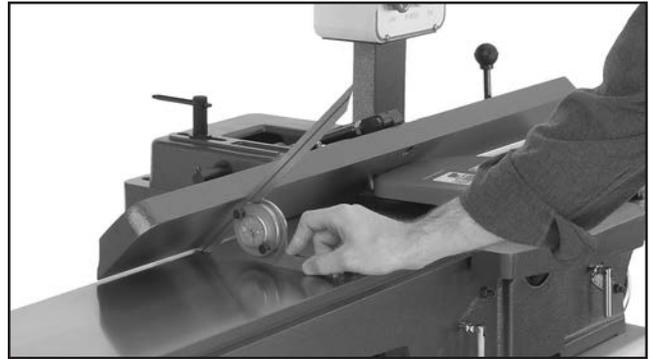

Figure 50. Example of adjusting fence 45° inward.
3. Using a 45° square, adjust the fence to the 45° inward position, as shown in **Figure 50**.